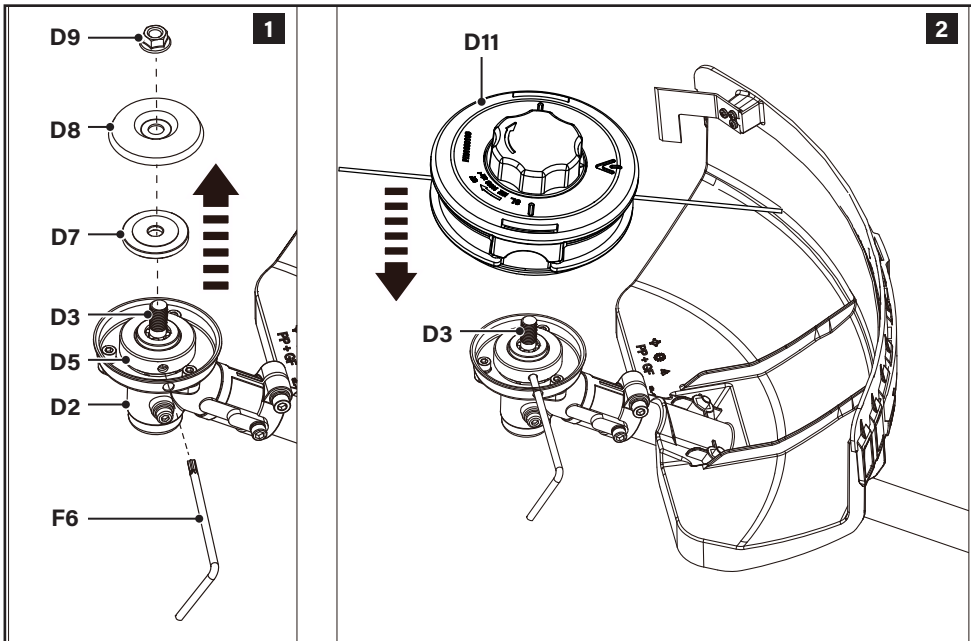

Fig. 8
4. Insert the multi-tool 1 (F6) into the hole to lock the rotation of the backing flange (D5) (Fig. 8, step 1).
6. Remove the securing nut (D9), the front flange (D8) and the locking flange (D7) from the gear head (D2) (Fig. 8, step 1).
7. Rotate the string trimmer head (D11) onto the spindle (D3) in anti-clockwise direction (Fig. 8, step 2).